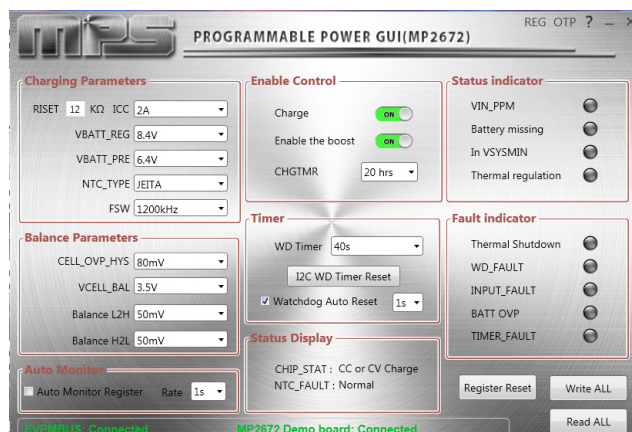

**Figure 4: The main window of the software**
- 5) Turn on the computer. Launch the MP2672 evaluation software. The main window of the software is shown in Figure 4.